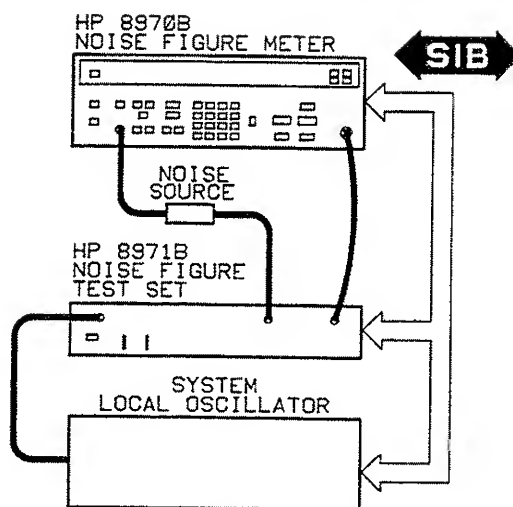

Figure 4-15. Noise Figure and Gain Test Setup SSB2/SSB3
9. Connect Noise Source to HP 8971B as shown in Figure 4-15. Make sure all other connections are made as shown — including HP-IB connections. Make sure the ENR table is set for the Noise Source (See the HP 8970B Operating Manual for instructions).
1. Set up instruments as shown in Figure 4-15.
14. Connect system as shown in Figure 4-15.